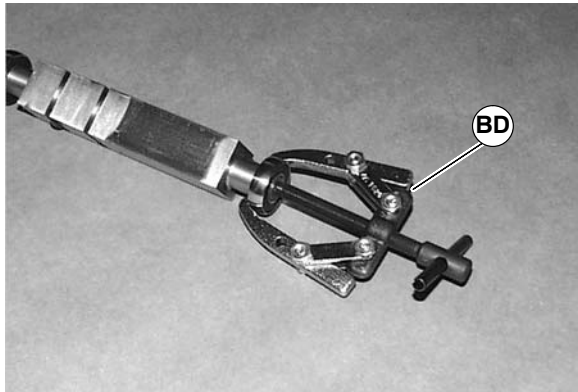

Figure 36
2. Use bearing removal tool (807-1078) (BD of Figure 36) to remove bearings from idler and drive pulleys.